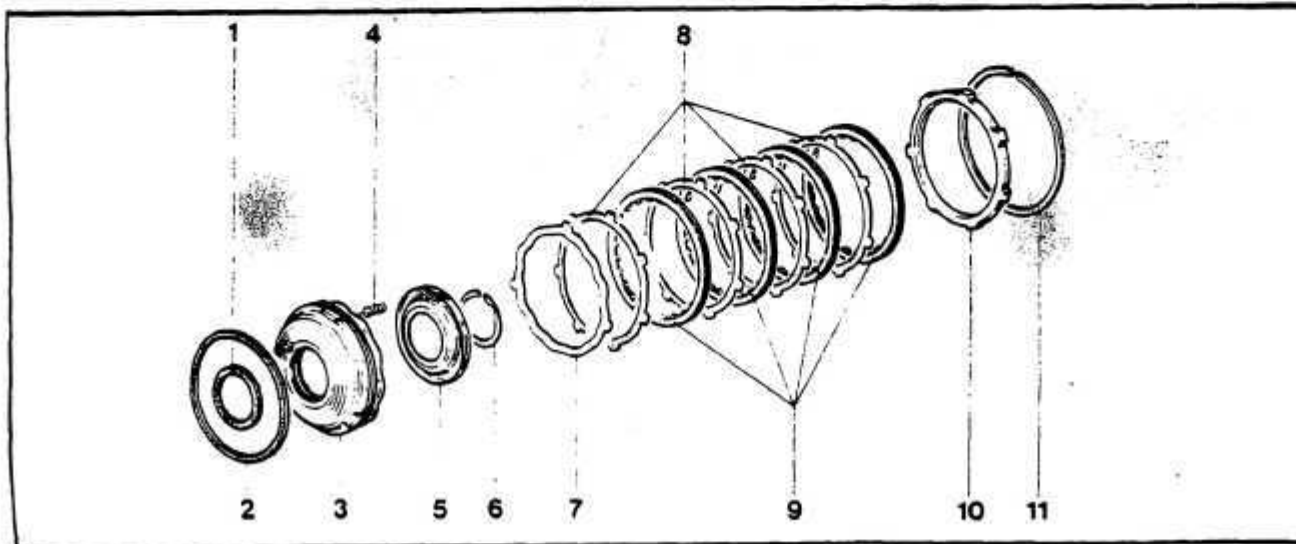

Fig. 45 BRAKE B-1 DISASSEMBLED
BRAKE B-1 — Fig. 45
10. Fit the wave disc on the B-1 piston. *Fig. 45*
11. Lubricate the new discs with transmission fluid and alternately install a steel disc, a lined disc, a steel disc, and so on. *Fig. 45*